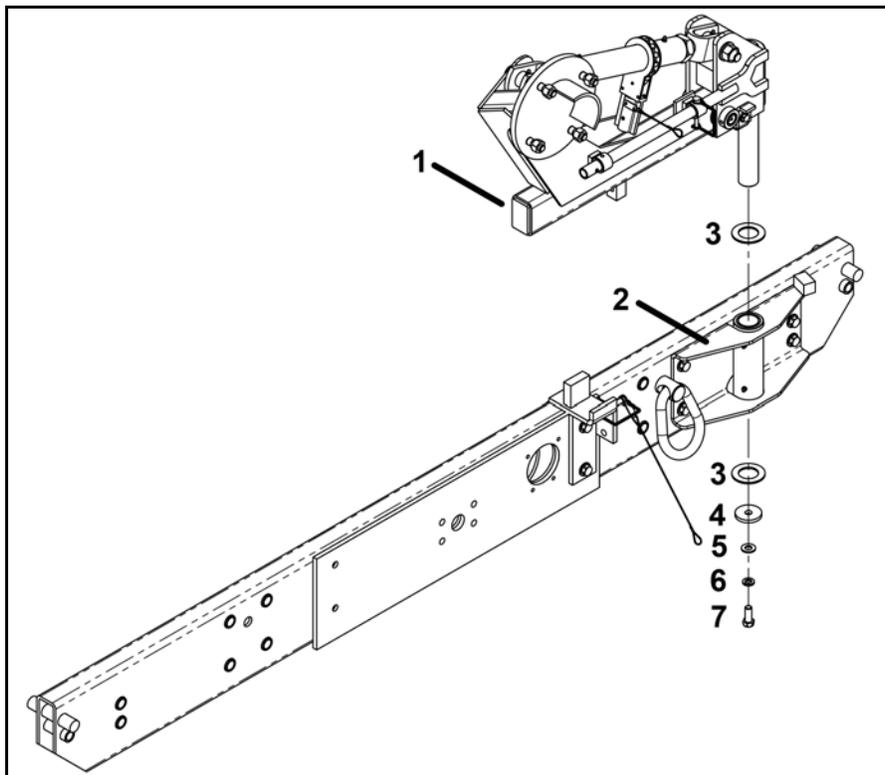

FIGURE 4-2
(Refer to Figure 4-2)**
1. Lightly grease the brass bushings located in the Pivot Mount (2) as shown in Figure 4-2.
2. Install one thrust bushing (3) onto the 1-1/2" diameter pin of the Ratchet Jack-Main Arm-Pivot Base Subassembly (1).
3. Slide the Subassembly (1) into the Pivot Mount (2). Since Subassembly (1) weighs 80 lbs it is recommended that two people perform this step of the installation process.
4. Install one Thrust Bushing (3), Retainer Washer (4), Washer (5) Lock Washer (6) and 1/2-13 x 1-1/4" capscrew (7). Tighten capscrew to 75 lb-ft (102 Nm).